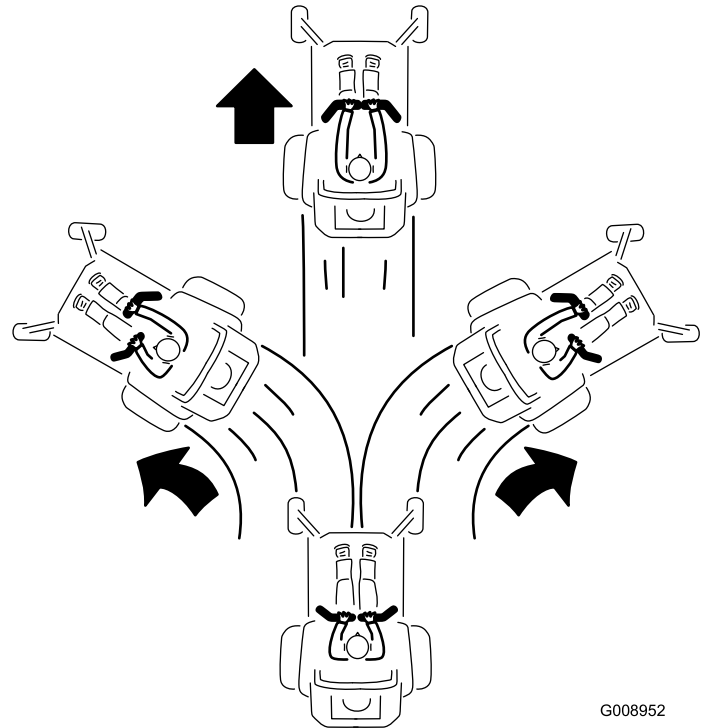

Figure 20
3. To go forward, slowly push the motion-control levers forward (Figure 20).